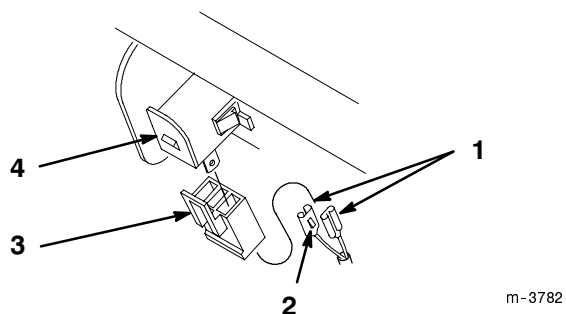

Figure 4
6. Insert terminals into plastic plug until the clips snap into position (Fig. 4). If they do not snap turn around.
7. Push plug onto switch so latch interlock (Fig. 4).